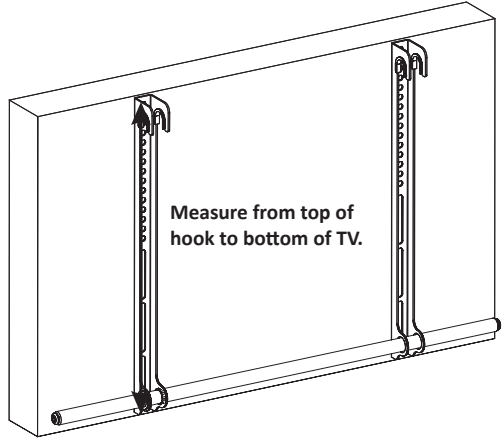

Figure 11 - Measure Height
- a. Measure the depth of the TV from the front to the back of the previously mounted brackets, as shown in Figure 11.
- Measure the distance from the top of the mounting hook to the bottom of the TV, as shown in Figure 11.
- b. Clip the screws (A) into the lower channel of the Wall Plate and tighten on both sides (Figure 11).